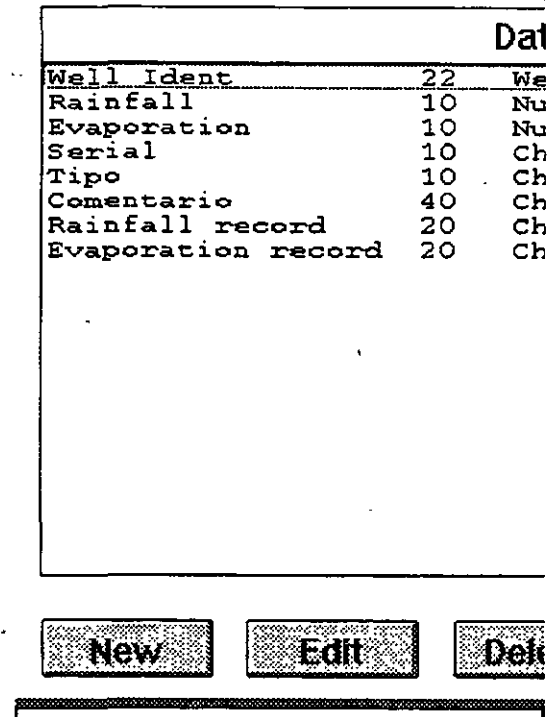

Figure 18-5
5. Select New and start creating a new data structure. When you are finished, the dialogue box may finally look as shown in Figure 18-5.